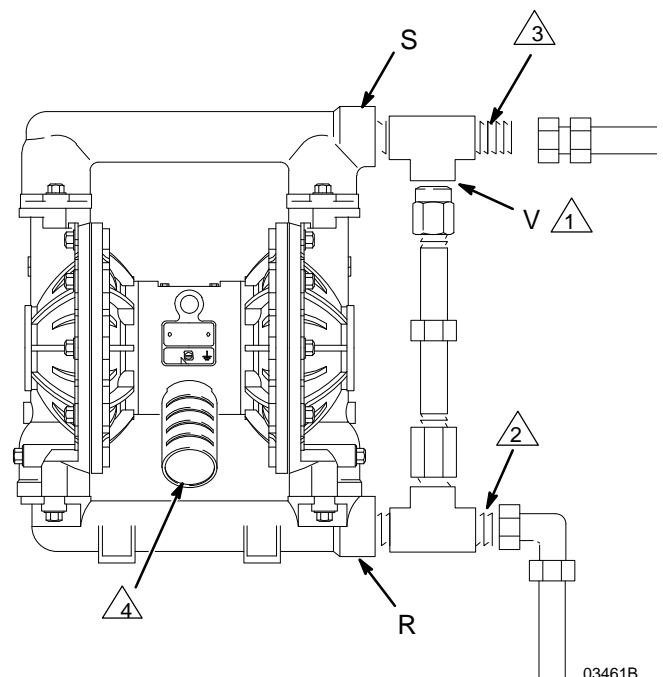

FIG. 4
Some systems may require installation of a pressure relief valve at the pump outlet to prevent overpressurization and rupture of the pump or hose. See FIG. 4.
1. Remove the muffler (P) from the pump air exhaust port.
2. Install a grounded air exhaust hose (T) and connect the muffler (P) to the other end of the hose. The minimum size for the air exhaust hose is 3/4 in. (19 mm) ID. If a hose longer than 15 ft (4.57 m) is required, use a larger diameter hose. Avoid sharp bends or kinks in the hose. See FIG. 4.
3. Place a container (U) at the end of the air exhaust line to catch fluid in case a diaphragm ruptures.